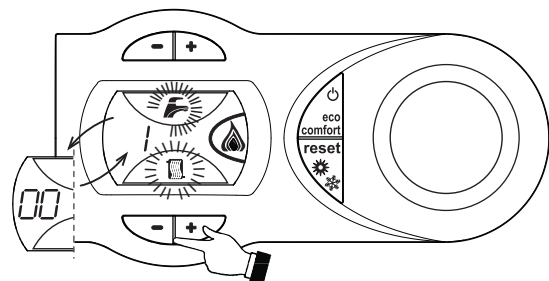

fig. 24 - Test mode
1. To operate the boiler in test mode, press the CH keys together for 5 seconds (see fig. 24)